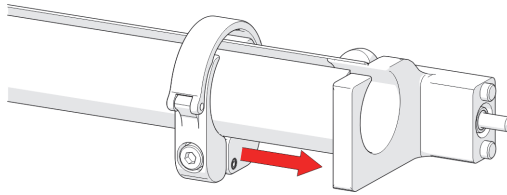

Figure 2-132 Slide clamp onto mount
4. Slide the clamp over the tube and cable management mount, pinching the tube in between (see Figure 2-132 on page 148).